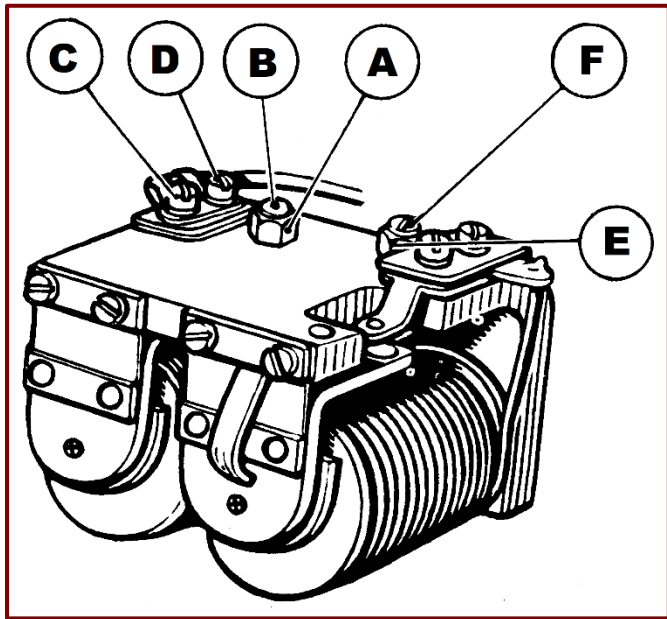

Figure 83. Cutout and Regulator Assembly.
To render the regulator contacts accessible for cleaning, slacken the screws securing the plate carrying the fixed contact. It will be necessary to slacken the upper screw (C, Figure 83) a little more than the lower (D) so that the contact plate can be swung outwards. Clean the contacts by means of a fine carborundum stone or fine emery cloth. Carefully wipe away all traces of dirt or other foreign matter. Finally tighten the securing screws.
If the cut out has become out of adjustment and operates at a voltage outside these limits it must be reset. To make the adjustment (*Figure 83*), slacken the locknut (E), turn the adjusting screw (F) a fraction of a turn in a clockwise direction to raise the operating voltage or in an anti-clockwise direction to lower the voltage. Tighten the locknut after making the adjustment.